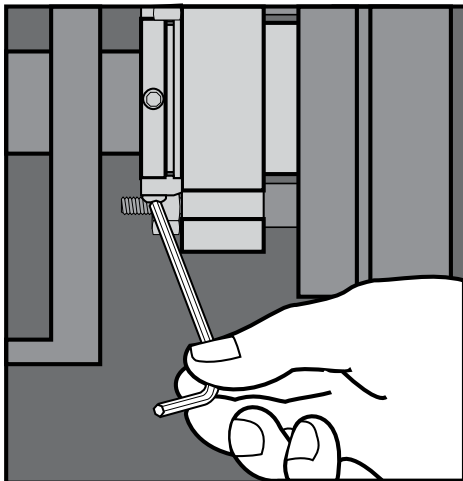

Figure 6
2.8 Remove the setting clips from the drive collar. See Figure 6. Although it's recommended, it is optional to save the clips/fasteners for future use when the pump impeller is reset or when the seal is removed for repairs.